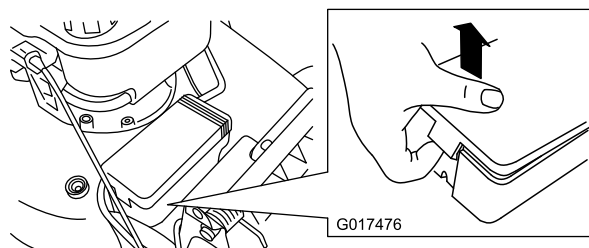

Figure 41
2. Unclip both ends of the battery cover and remove it (Figure 41).